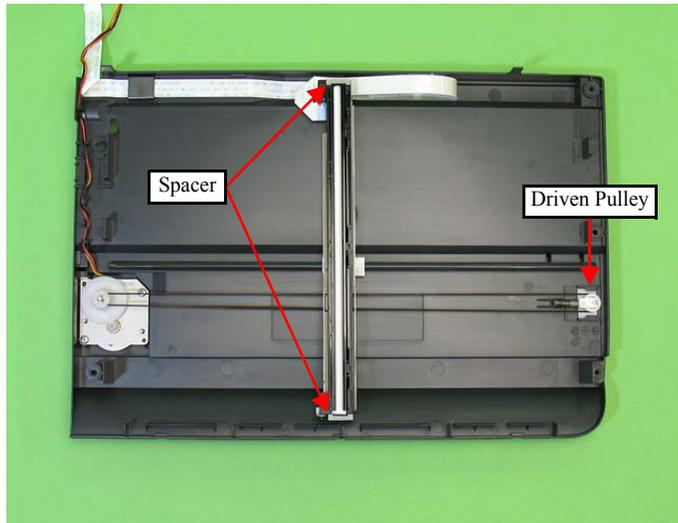
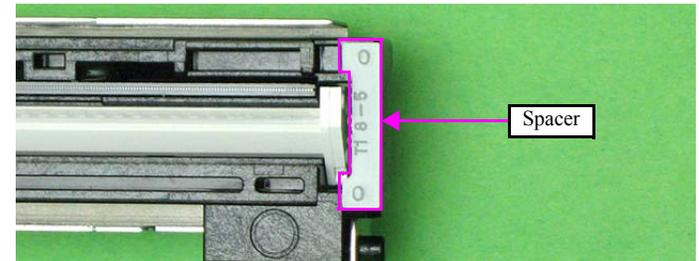

Figure 4-106. Installing the Spacer or the Driven Pulley
Figure 4-114. Replacing the Spacers
If the Spacer or the Driven Pulley comes off when disassembling the Scanner Unit, make sure to assemble the part referring to Fig.4-106 and Fig.4-114.
When assembling the Upper Scanner Housing, confirm that the Spacer is attached correctly. (See Fig.4-106 and Fig.4-114.)
- When installing the spacers, be sure to place them with the cutout facing inward. (See Fig.4-114.)